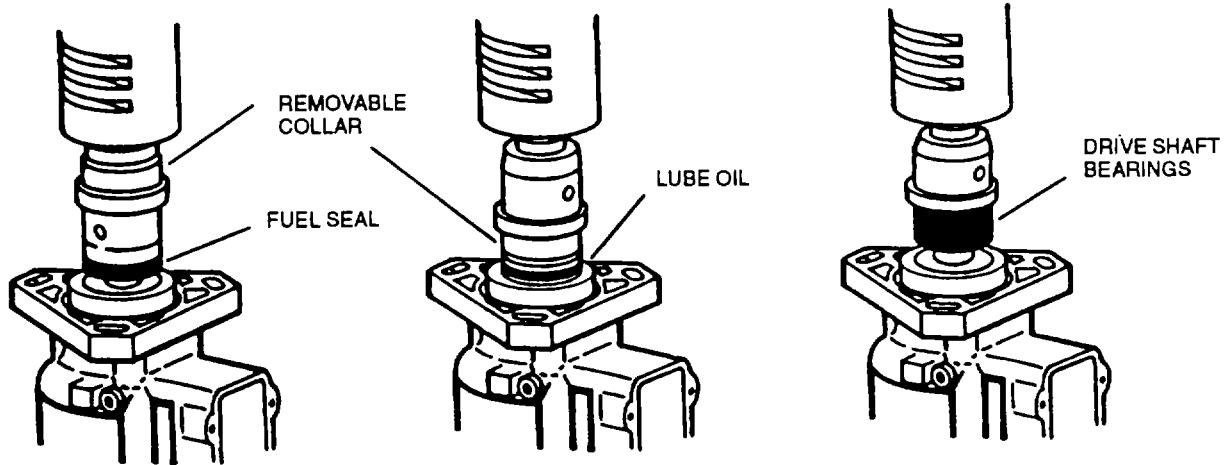

FIGURE 3-92. Installing Seals and Bearing
- (1) Place new fuel seal (44) on seal/bearing installation tool (28316) (end opposite removable collar) with open side of seal facing outward, refer to FIGURE 3-92.
- (2) Place pump housing on an arbor press with mounting flange upward. Be sure housing rests flat on arbor , press plate.
- (3) Position installation tool with seal above pump housing and press seal into reduced diameter at bottom of housing bore.
- (4) Place oil seal (45, FIGURE 3-73) at opposite end of installation tool with lip of removable collar inside seal case (garter spring side faces tool), refer to FIGURE 3-92.
- (5) Position installation tool with seal above pump housing and press seal into housing until it bottoms with no excessive force.
- (6) Remove the collar from installation tool. Slide bearing (46, FIGURE 3-73) onto tool in place of collar. Bearing must be placed with part number facing against tool shoulder, refer to FIGURE 3-92.
- (7) Position installation tool with bearing above pump housing and press bearing into housing until it bottoms. Check rollers for free movement.